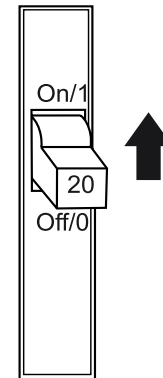

Figure 77. GFCI Circuit Breaker
2. Place a GFCI circuit breaker (Figure 77) in the **ON** position.